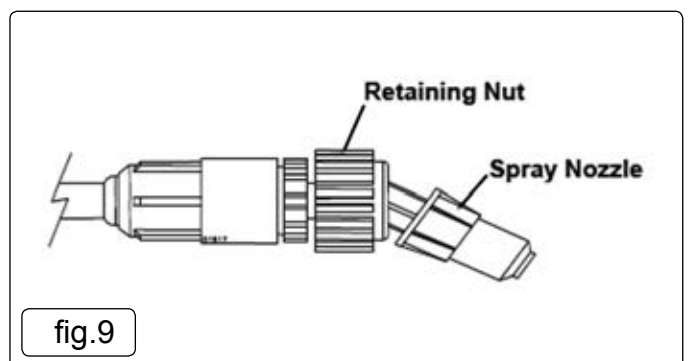

fig.9
- 7.3. **Spray Gun (see fig.9)**